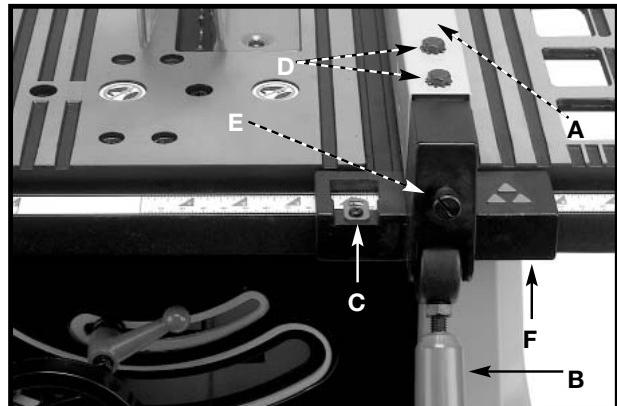

Fig. 35
1. To move the rip fence (A) Fig. 35 along the table, lift up the fence locking lever (B), slide the fence to the desired location on the table, and push down the fence locking lever (B).
2. The pointer indicates the distance from the fence to the saw blade. If an adjustment is required, loosen the screw (C) Fig. 35 and adjust.
4. Position the fence next to the miter gauge slot (Fig. 35). Clamp the fence to the table by pushing the locking lever (B) down. The edge of the fence should be parallel to the miter gauge slot.
5. If an adjustment is necessary, loosen the two screws (D) Fig. 35, and lift the locking lever (B). While holding the fence bracket (F) firmly toward the front of the saw, move the rear of the fence (A) until it is parallel with the miter gage slot. Tighten two screws (D) and push locking lever down (B).
6. Adjust the clamping action of the fence (A) Fig. 35 by lifting the locking lever (B) and turning the screw (E) clockwise to increase, or counterclockwise to decrease the clamping action of the fence.